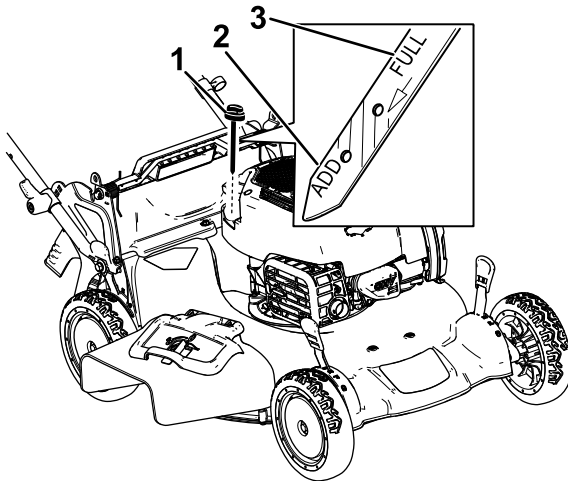

Figure 8
2. Remove the dipstick by rotating the cap counterclockwise and pulling it out (Figure 8).
6. Read the oil level on the dipstick (Figure 8).